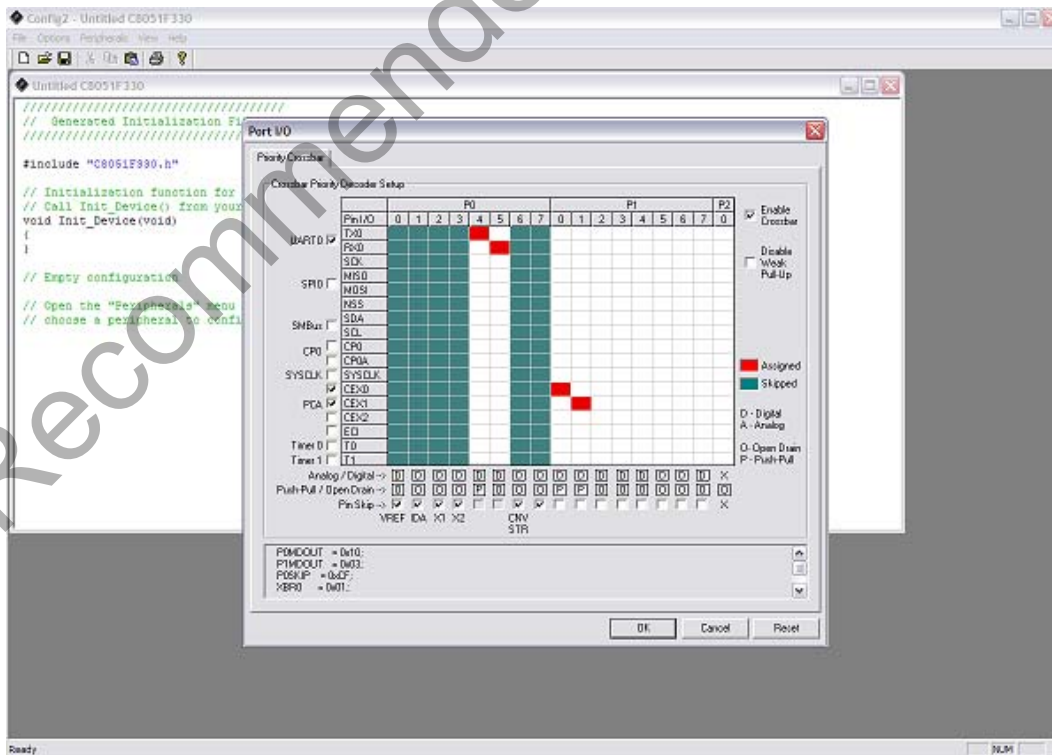

Figure 1. Configuration Wizard 2 Utility
Configuration Wizard is a code generation tool for all Silicon Laboratories devices. Code is generated through the use of dialog boxes for each device peripheral as shown in Figure 1.
See Figure 1 for a diagram of the hardware configuration.
3. Place shorting blocks on J7 and the +3VD-VDD\_PWR jumper pair on J6, as shown in Figure 1.